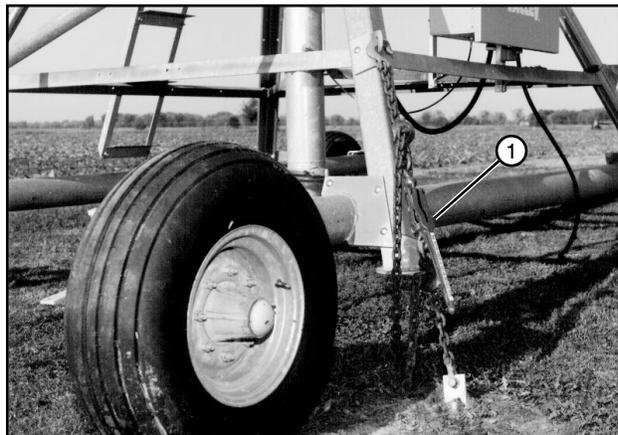

Figure 42-2 1. Load Binder
9. Attach and tighten the load binders at each corner of the pivot. See figure 42-2.